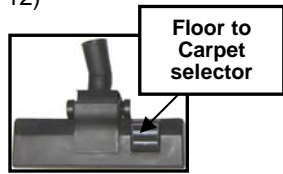

Fig. 12
- Step on the floor to carpet selector to adjust the height of the brushes. There are two (2) different heights one for floors and one for carpets. (Fig. 12)